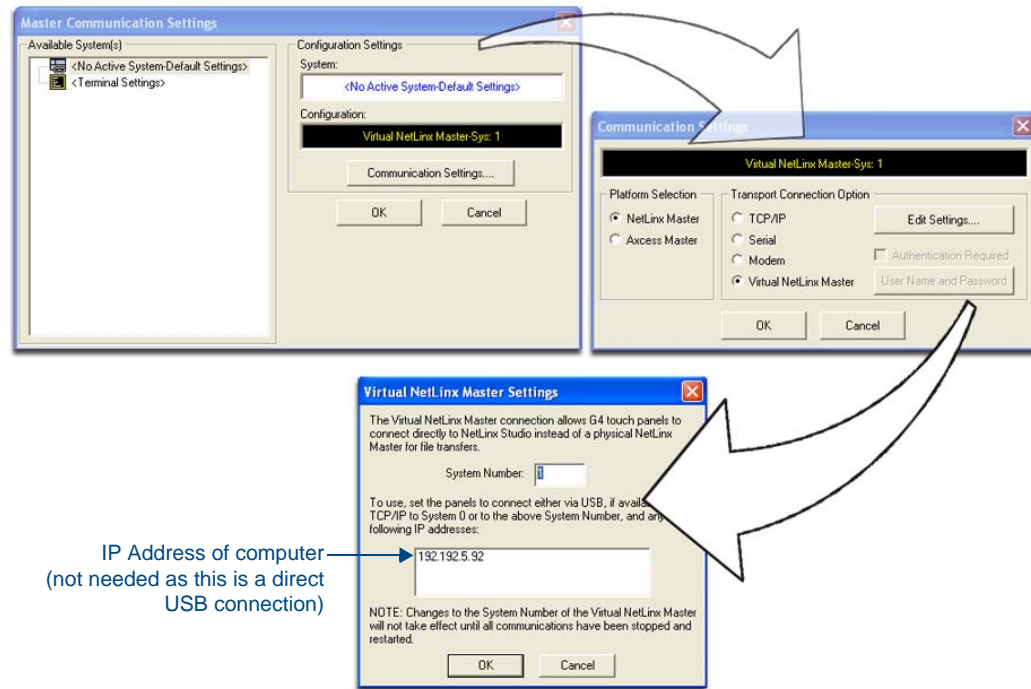

FIG. 72 Assigning Communication Settings for a Virtual Master
2. Select **Settings > Master Communication Settings**, from the Main menu to open the Master Communication Settings dialog (FIG. 72).
6. Click the **Edit Settings** button (*on the Communications Settings dialog*) to open the *Virtual NetLinx Master Settings* dialog (FIG. 72).